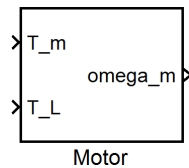

Figure 1: Simple motor implemented in Simulink: The mask.
- (a) Implement the motor (equation 1) in Simulink. As illustrated in figure 1,  $T_m$  and  $T_L$  should be the inputs and  $\omega_m$  should be the output of the Simulink sub-system. Choose yourself if you want to hardcode the parameter  $J_m$ , or if you want to make it a mask parameter.